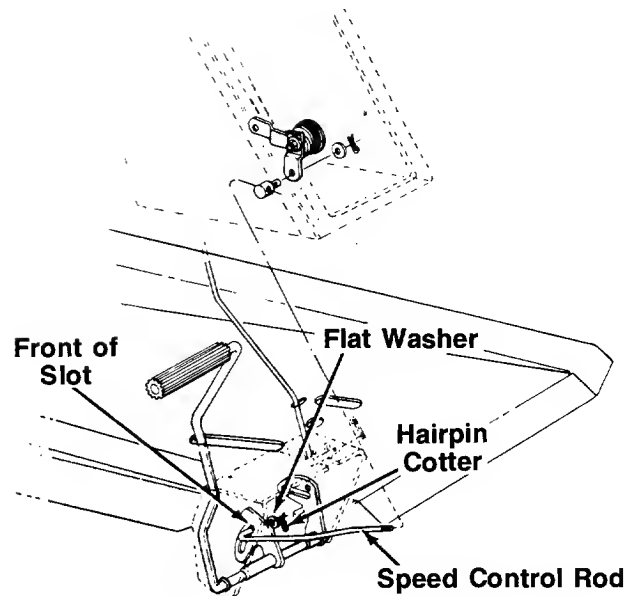

FIGURE 23.
7. Disconnect the speed control rod by removing the hairpin cotter and flat washer. See figure 23.
9. Adjust the rod by threading it in or out of the ferrule until it is all the way to the front of the slot as shown in figure 23.